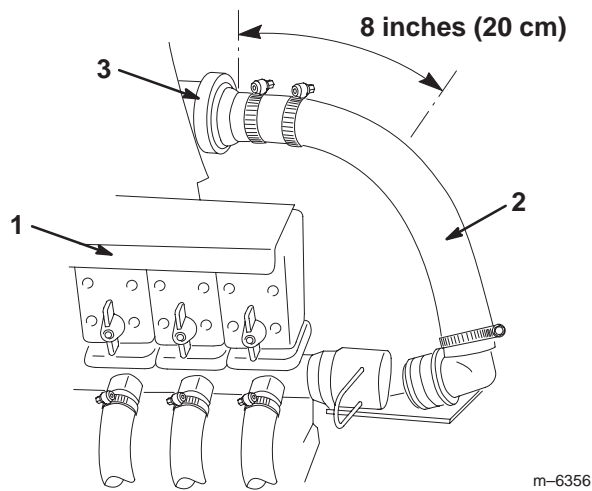

Figure 4
1. Cut the boom supply hose 8 inches (20 cm) to the right of the flow meter (if equipped) or 32 inches (81 cm) from the supply tee (located directly behind the boom valves) using a hacksaw (Fig. 4). Remove the hose clamp from the loose end and discard the hose and fitting.